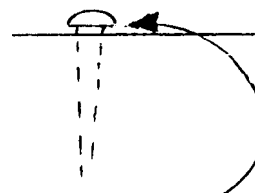

FIG. 16
- 23. The 33 holes in the center row of each side (17 on one side and 16 on the other) are for the HITCH PINS (round-head wood screws). Use the square-drive screwdriver bit to screw them down until the screw heads are just slightly above the wood surface. (fig. 16)